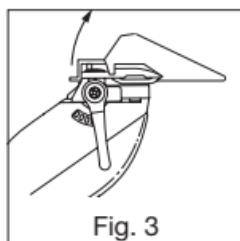

Fig. 3
- To remove comb attachments, pull out and up (figure 3).